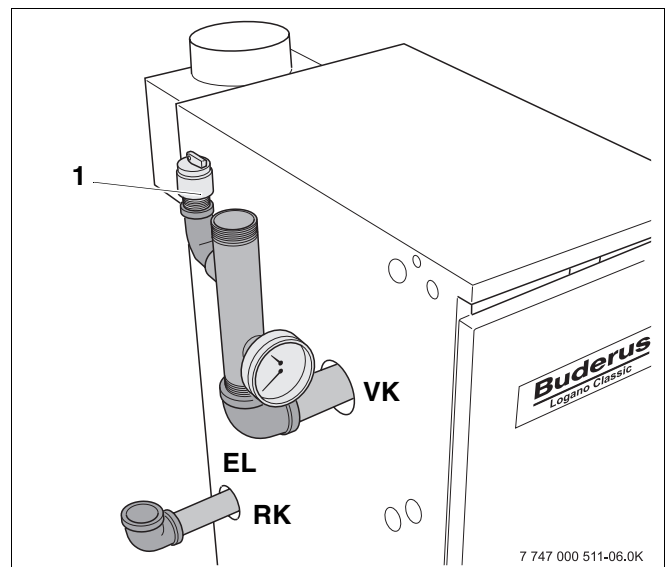

Fig. 14 B-kit installation
- Close connection for relief valve (→ Fig. 14) and all other open connections with plugs.
- Install pressure relief valve (→ Fig. 14).